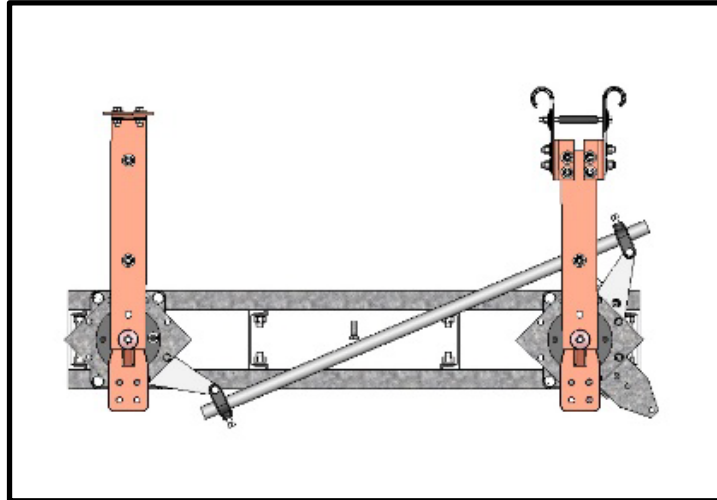

Figure 14: Switch – Fully Open Position (Top View)
- 4.2. **Figure 14**.
Blades Straight In Open Position (Figure 14)